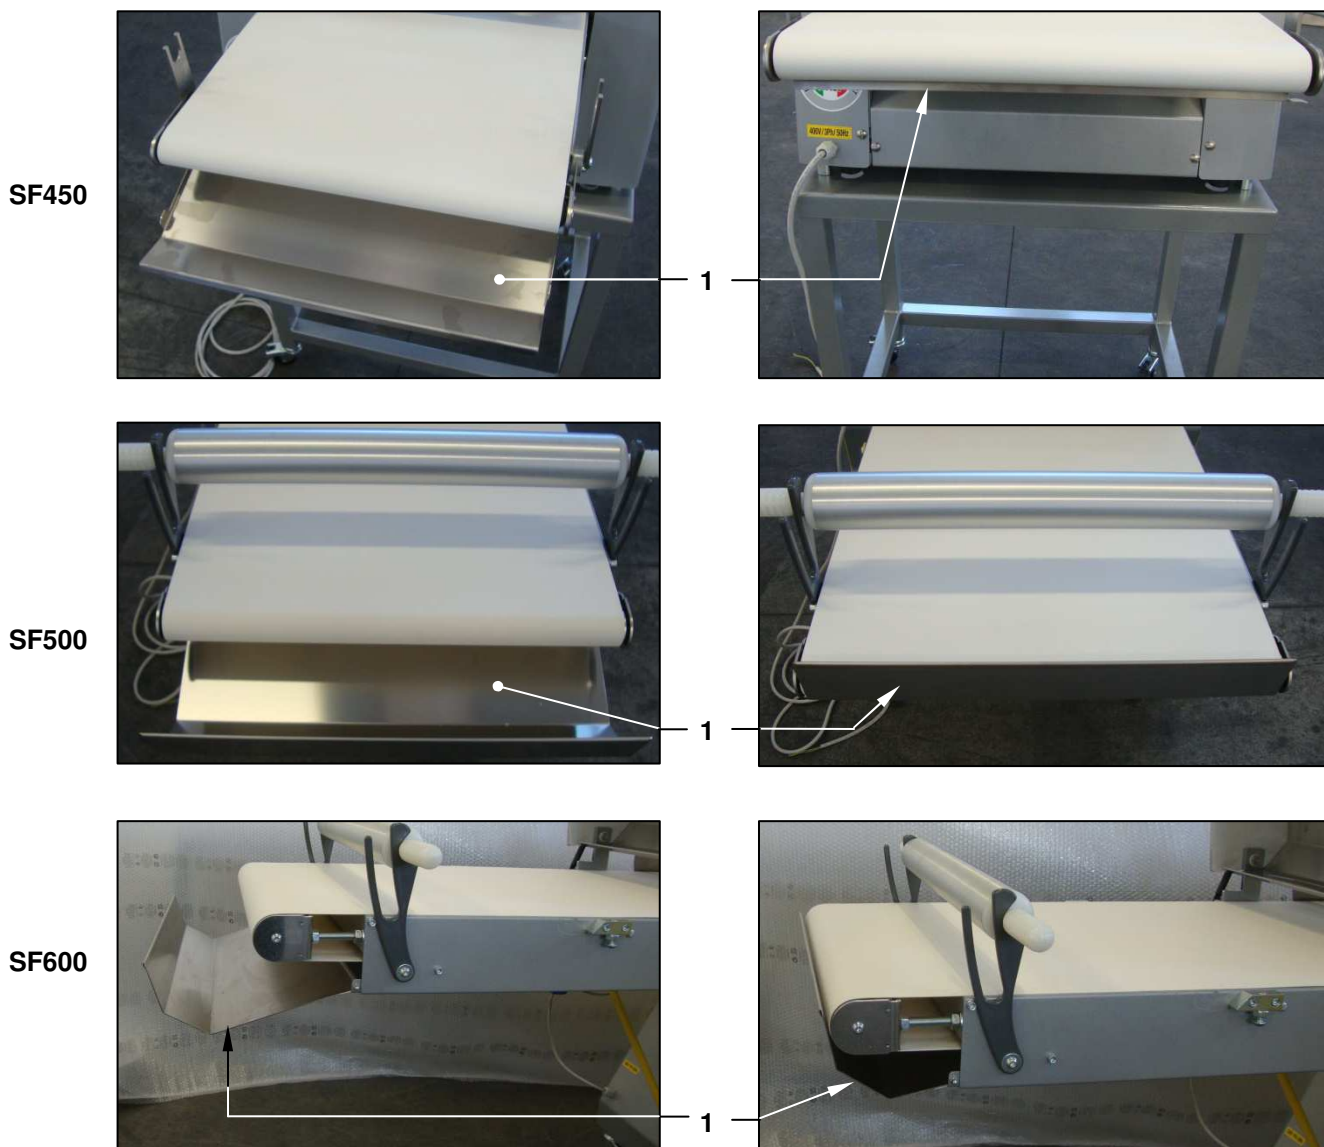

Figure 21 - Catch pan
Figure 21 shows a fully extended and fully retracted catch pan ref. 1 for each model of dough sheeter.